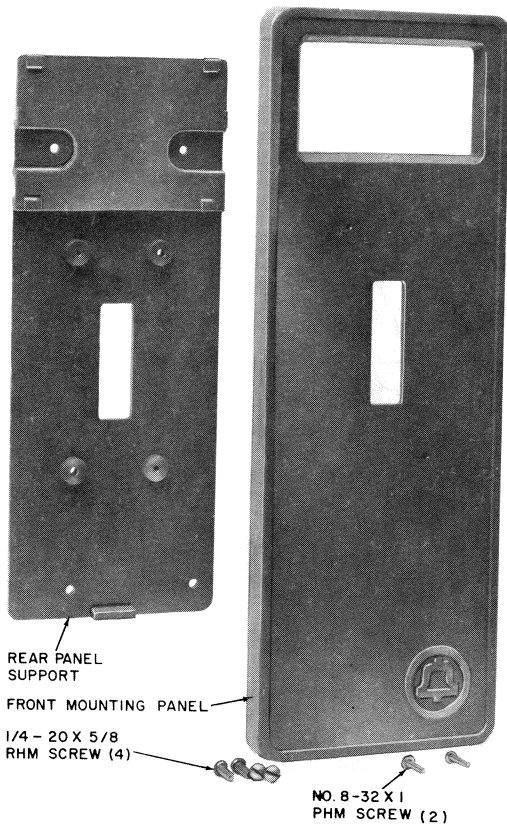

Fig. 9—KS-22284 Backboard
C. KS-22284 Backboard (Fig. 9)